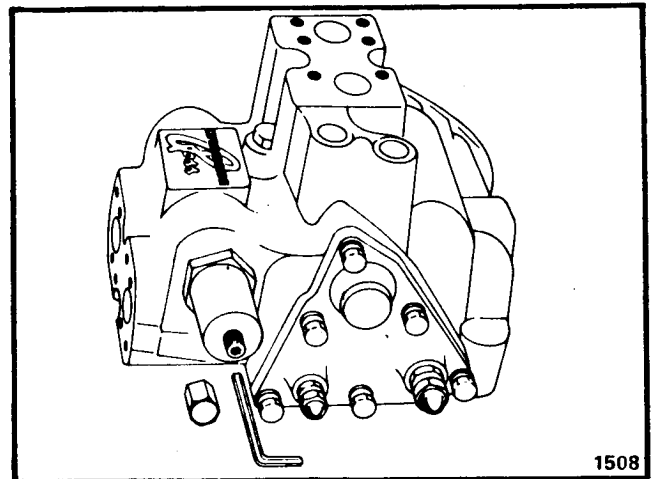

Fig. 10 - Adjusting Steering Pressure
- d. If steering pressure is not within 50 psi of specified pressure, adjustment is recommended. The rear belly pan on the tractor must be removed to gain access to the steering valve which is mounted on the tractor frame lower crossmember. Remove the cap as illustrated in Fig. 10 and insert an Allen wrench into the adjustment screw head. Turn the adjustment screw clockwise to increase pressure and counterclockwise to decrease pressure. When pressure is properly adjusted, replace the cap.